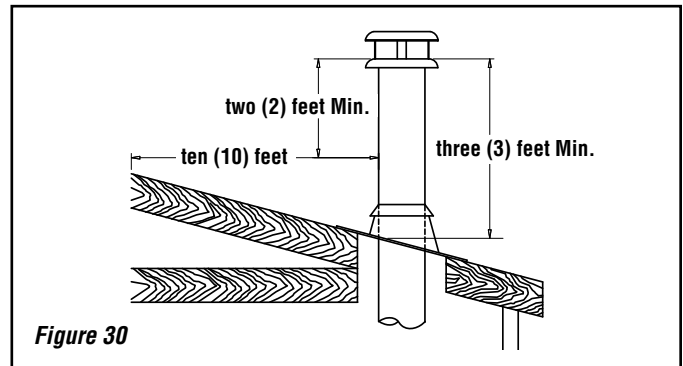

Figure 30
5. The minimum chimney height is twelve (12) feet (3.7 m). In altitude, add 18" (450 mm) to the chimney for every 2,000 feet (600 m) above sea level.
6. **All chimney\* installations must include at least one support.** Reducing the amount of chimney weight on the fireplace will help avoid the noise created when the fireplace expands. This can be achieved by having the chimney supported by the supports. The maximum chimney length that can be supported by the fireplace is nine (9) feet (2.75 m) for S-2100+/HT6000+, twelve (12) feet (3.7 m) for ASHT+ / HT6103+ / DuraTech DTC\* and 26 feet (8 m) for AC chimney.
7. The chimney must extend at least three (3) feet (915 mm) above its point of contact with the roof and at least two (2) feet (610 mm) higher than any wall, roof or building within ten (10) feet (3m) of it (**Figure 30**).
8. If the chimney extends higher than five (5) feet (1,500 mm) above its point of contact with the roof, it must be secured using a roof brace.